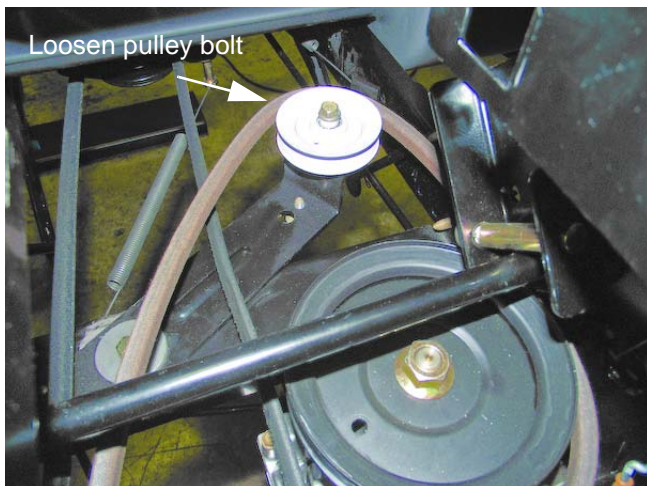

Figure 5.48
- 4b. Loosen the idler pulley from its bracket using a 1/2" wrench. See Figure 5.48.